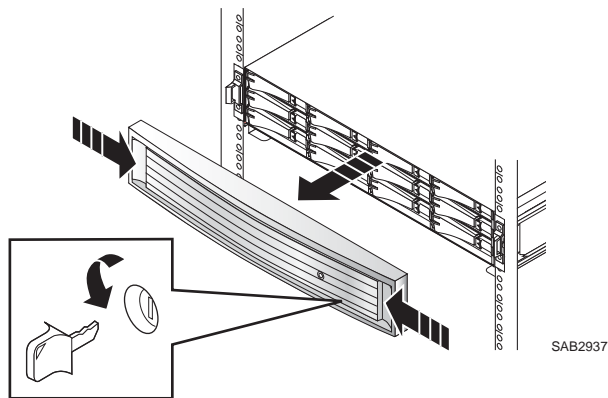

FIGURE 18. Unlocking and Removing the Front Bezel
- a. Insert the key that shipped with your storage system into the bezel lock, and turn it to release the lock (Figure 18).
- b. Press the two latch buttons on the bezel surface toward each other to release the bezel from the cabinet (Figure 18).
- c. Pull the bezel off the cabinet and put it on a clean, static-free surface (Figure 18).